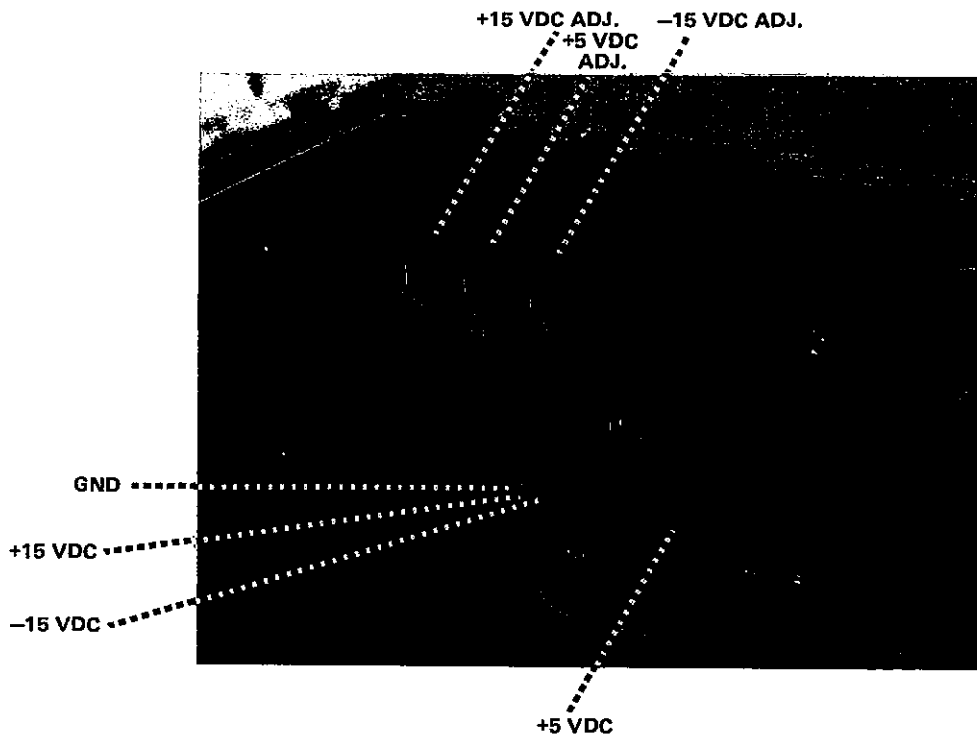
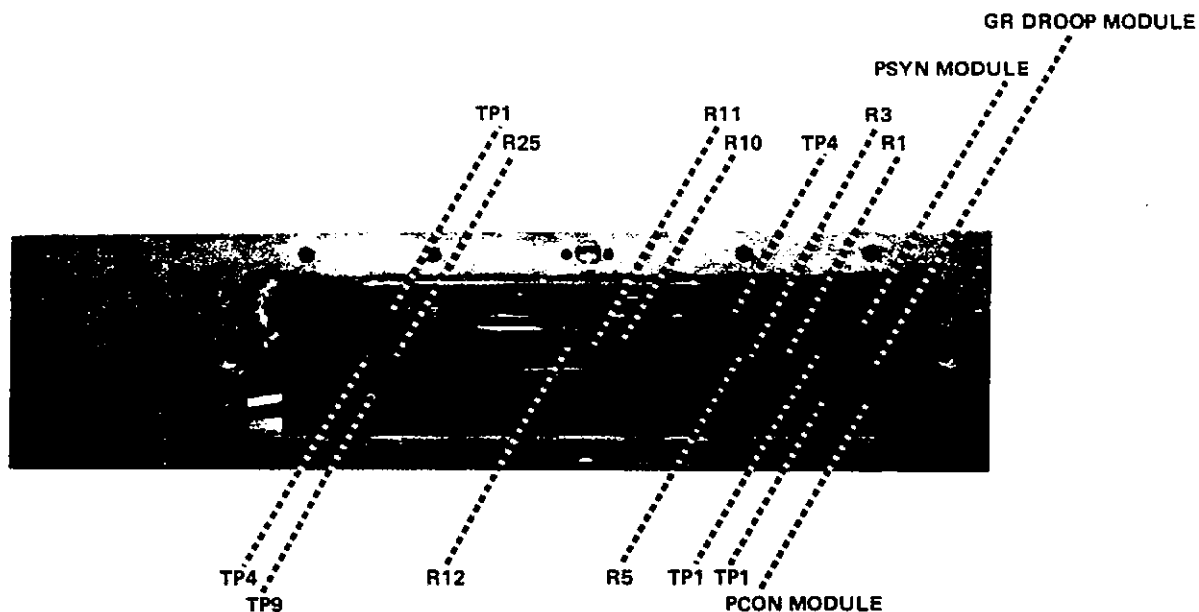
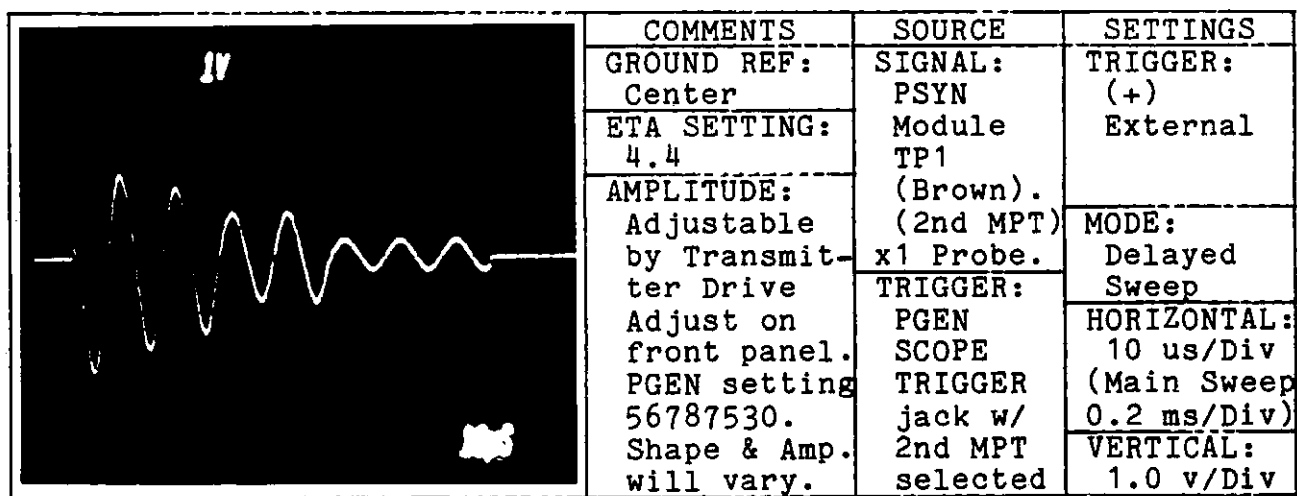

Figure 5.32. Voltage Test Point and Adjustment Locations of the PGEN Power Supply
Figure 5.33. Test Point and Potentiometer Locations of the PGEN Modules
Figure 5.34. Transmitter Drive Waveform (2nd MPT)
5.3.2.3 Pulse Generator. Figures 5.32 and 5.32a show the voltage test and adjustment points of the power supply in the PGEN. Figure 5.33 shows the locations of the test points of the modules of the PGEN. Figure 5.33 also shows the location of various potentiometers of the W0678-19B/GR DROOP module. Figures 5.34 through 5.47 show the waveforms of the various test points of the PGEN modules. All waveforms are shown with the timers configured for a secondary station.